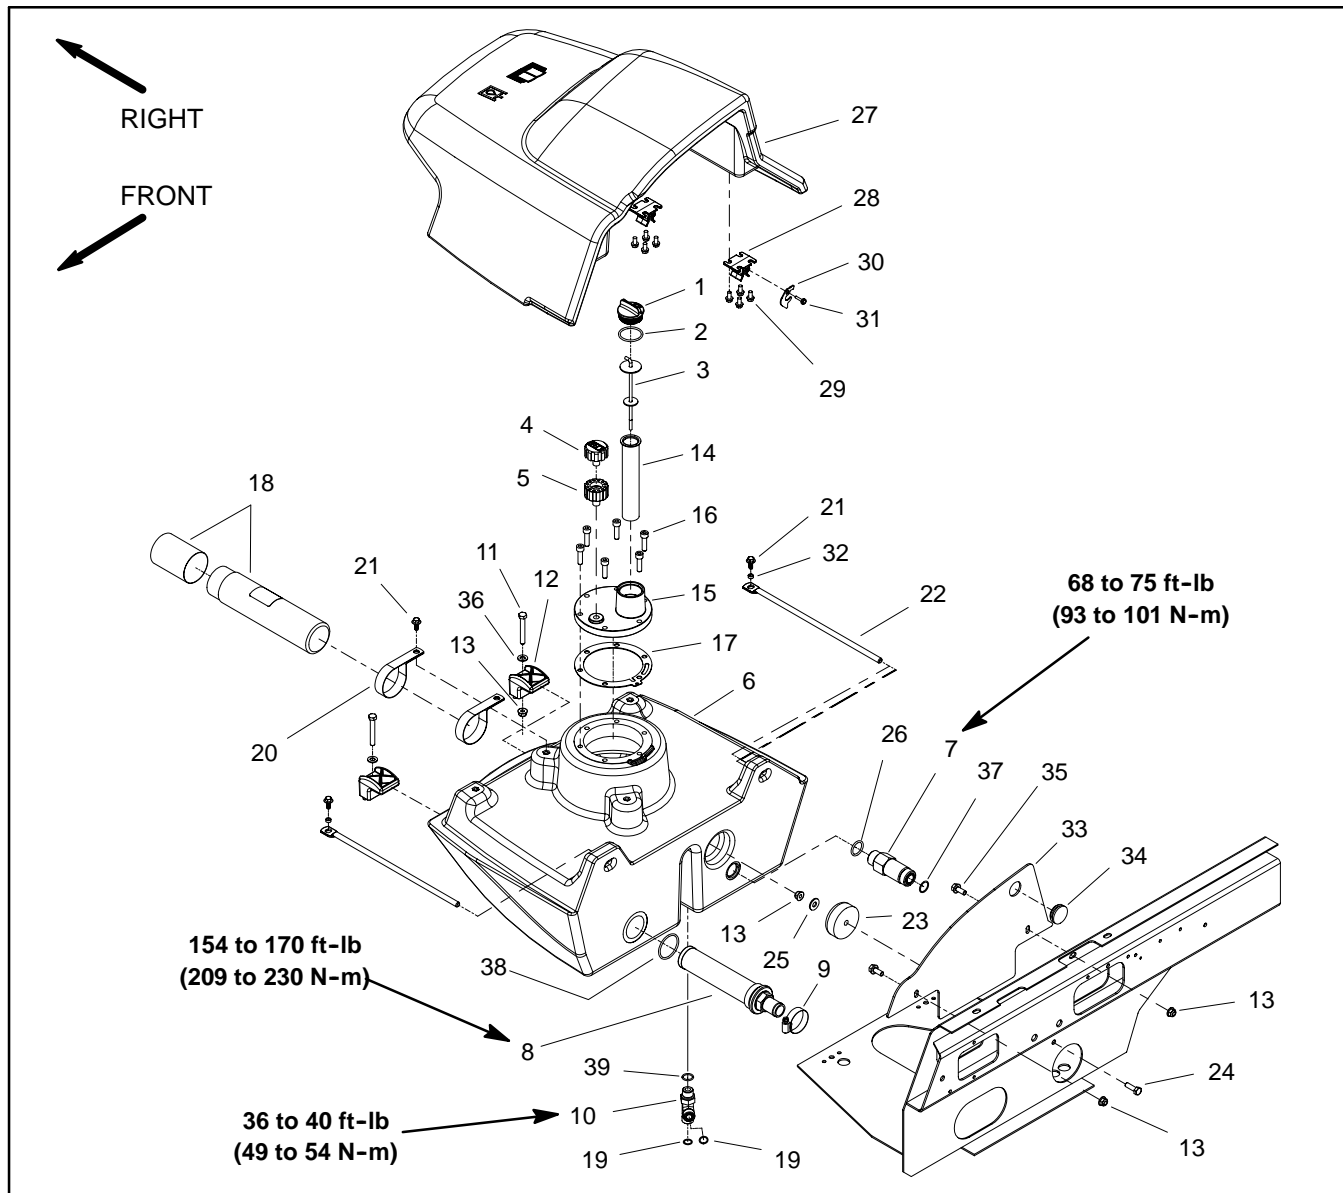

Figure 112
Removal (Fig. 112)
6. Remove hydraulic reservoir using Figure 112 as a guide.
Installation (Fig. 112)
1. If fittings were removed from reservoir, lubricate and place new O-rings onto fittings. Install fittings into reservoir openings using marks made during the removal process to properly orientate fittings. Torque fittings to values identified in Figure 112.
2. Install reservoir using Figure 112 as a guide.